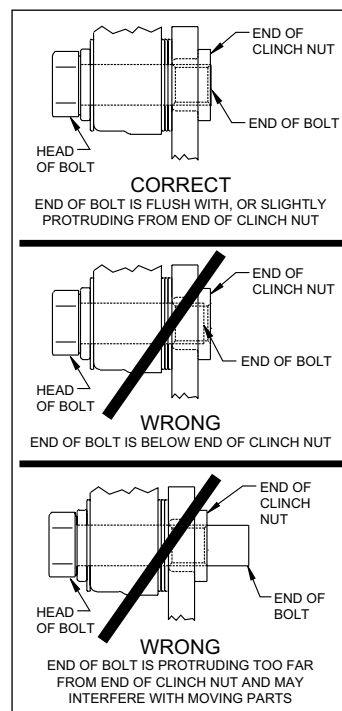

Figure 5. Clinch Nut
CAUTION: All mounting bolts must fully engage clinch nuts. Be sure to check that all bolts are either flush or protruding through flanged side of clinch nut after shimming, Figure 5.
•Temporarily tighten the caliper mounting bolts and view the rotor (4) through the top opening of the caliper. The rotor should be centered in the caliper, Photo 8. If not, adjust by adding or subtracting shims between the bracket and the caliper. Always use the same amount of shims on each of the two mounting bolts. **NOTE:** The end of each bolt must be flush with or slightly protruding from the head of the clinch nut, as shown in Figure 5. If necessary place spare shims between washer (6) and caliper mounting ear to achieve the proper clinch nut engagement. Once the caliper alignment and clinch nut engagement are correct, remove the bolts one at a time, apply red Loctite® 271 to bolt threads, and torque to 40 ft-lb.